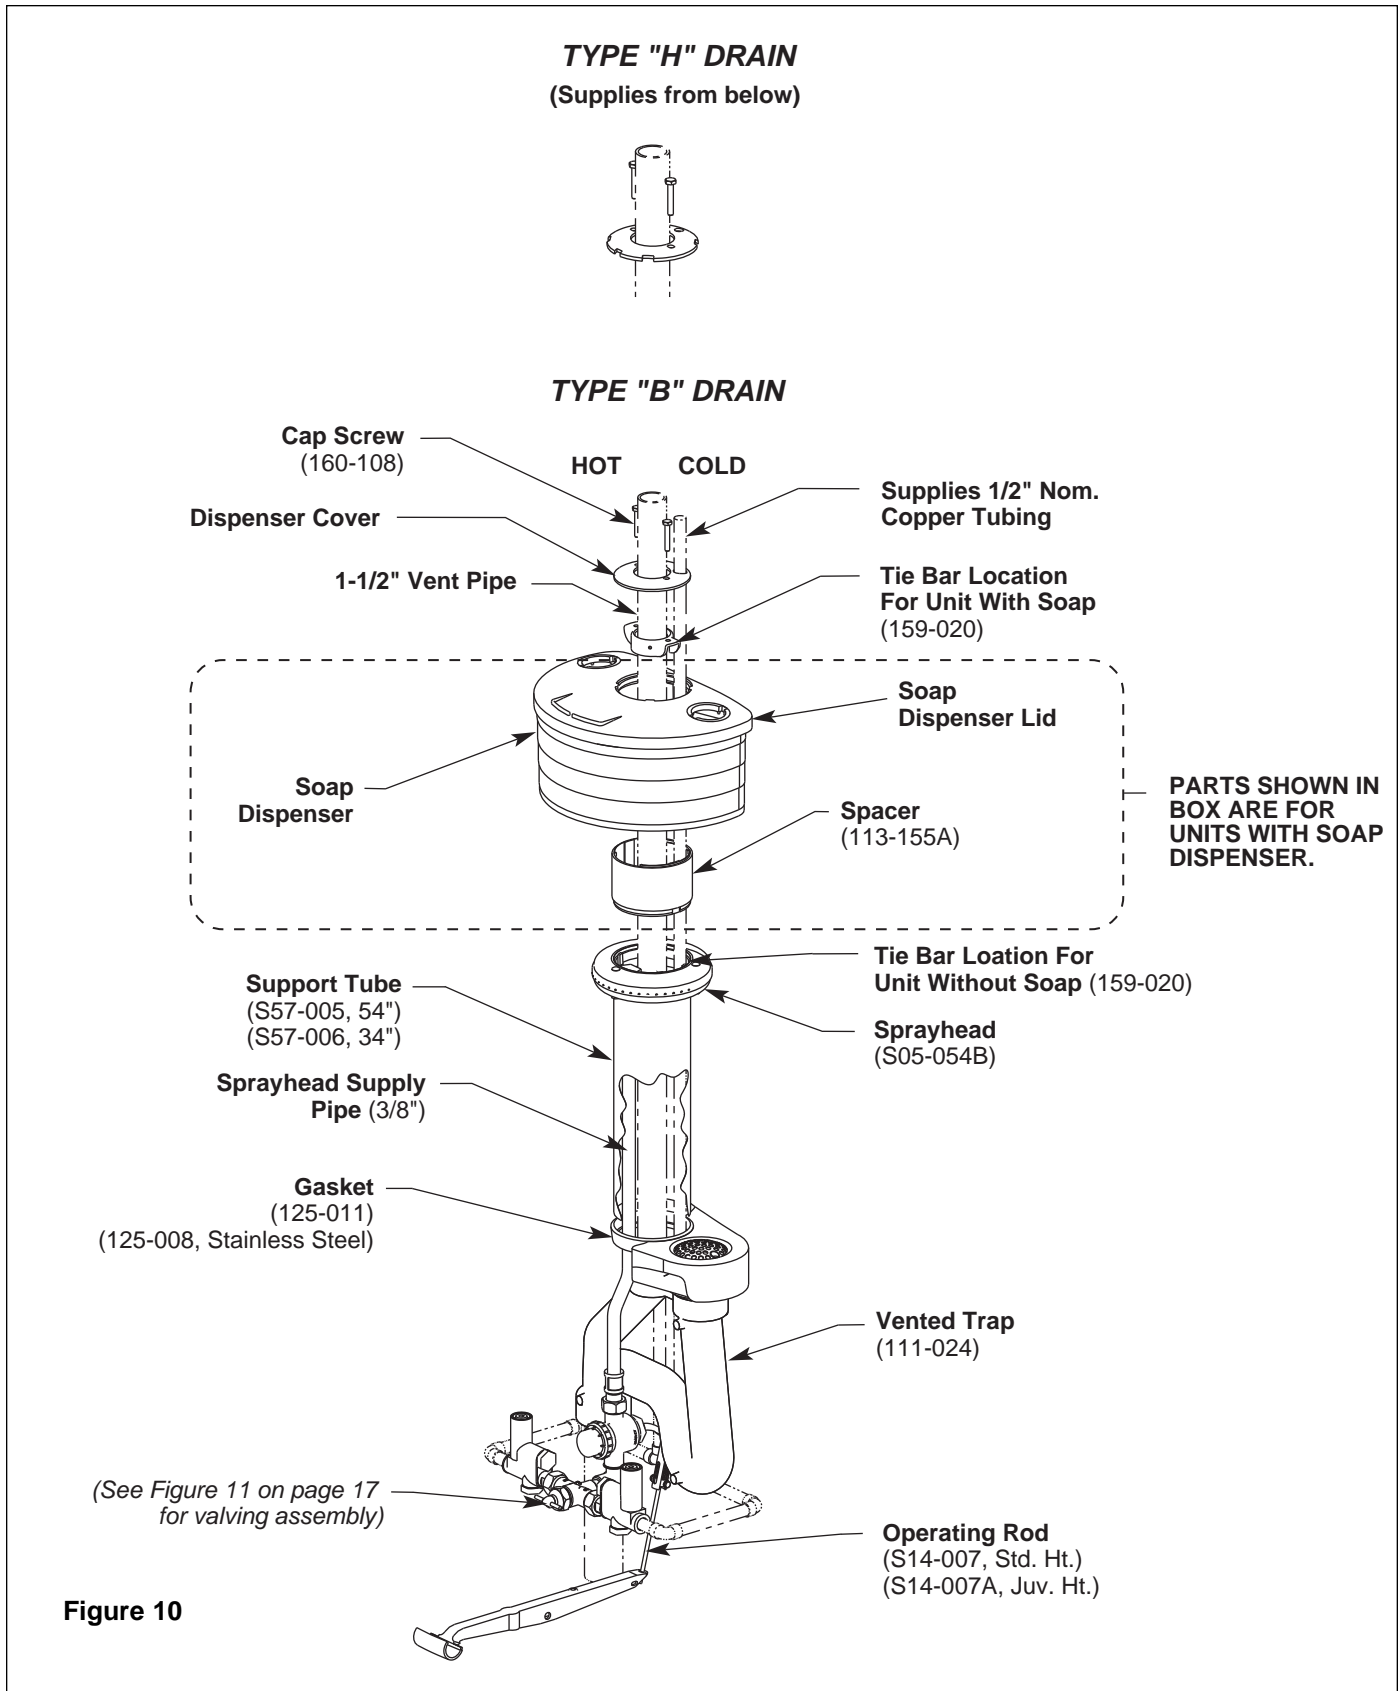

Figure 10
1. Install the hemmed end (not sharp end) of the support tube (welded seam toward wall) with gasket into the bowl (see Figure 10 on page 16).